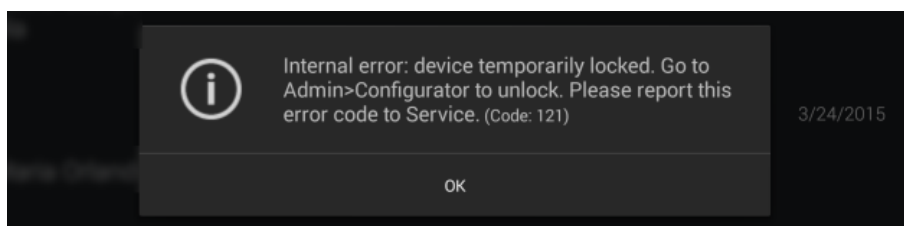

Fig. 10 – Example of error message
- Federal laws (US) restrict this device to sale by or on the order of a physician or a properly licensed practitioner.
- In case an unexpected hardware condition occurs during use, an error message may appear (see for example Fig. 10) and COMPASS may become temporarily locked. It is possible to reset this condition by letting the device re-initialize: refer to par. 12.4 for the complete procedure. If the error condition persists, please contact an authorized service center.